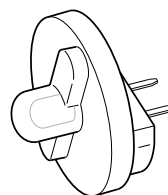

Figure 4-51. Fuel Injector Test Lamp (Part No. HD-34730-2C)
2. Use HARNESS CONNECTOR TEST KIT (Part No. HD-41404-B), purple terminal probes and patch cord to and gray socket probes and patch cord to FUEL INJECTOR TEST LAMP (Part No. HD-34730-2C). See Figure 4-51.
5. Use FUEL INJECTOR TEST LAMP (Part No. HD-34730-2C) to test the purge solenoid circuit by plugging the test lamp into connector [95B]. See Figure 4-51.